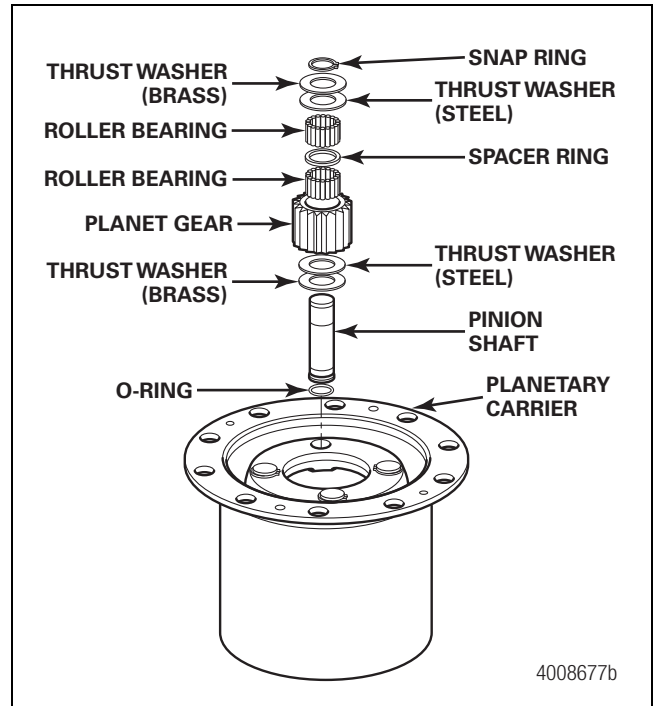

Figure 11.1
2. Install the planet gears and thrust washers into the hub casing. Align the gears with the pinion shaft bores and verify that the washers are positioned correctly against the hub housing. Figure 11.1.